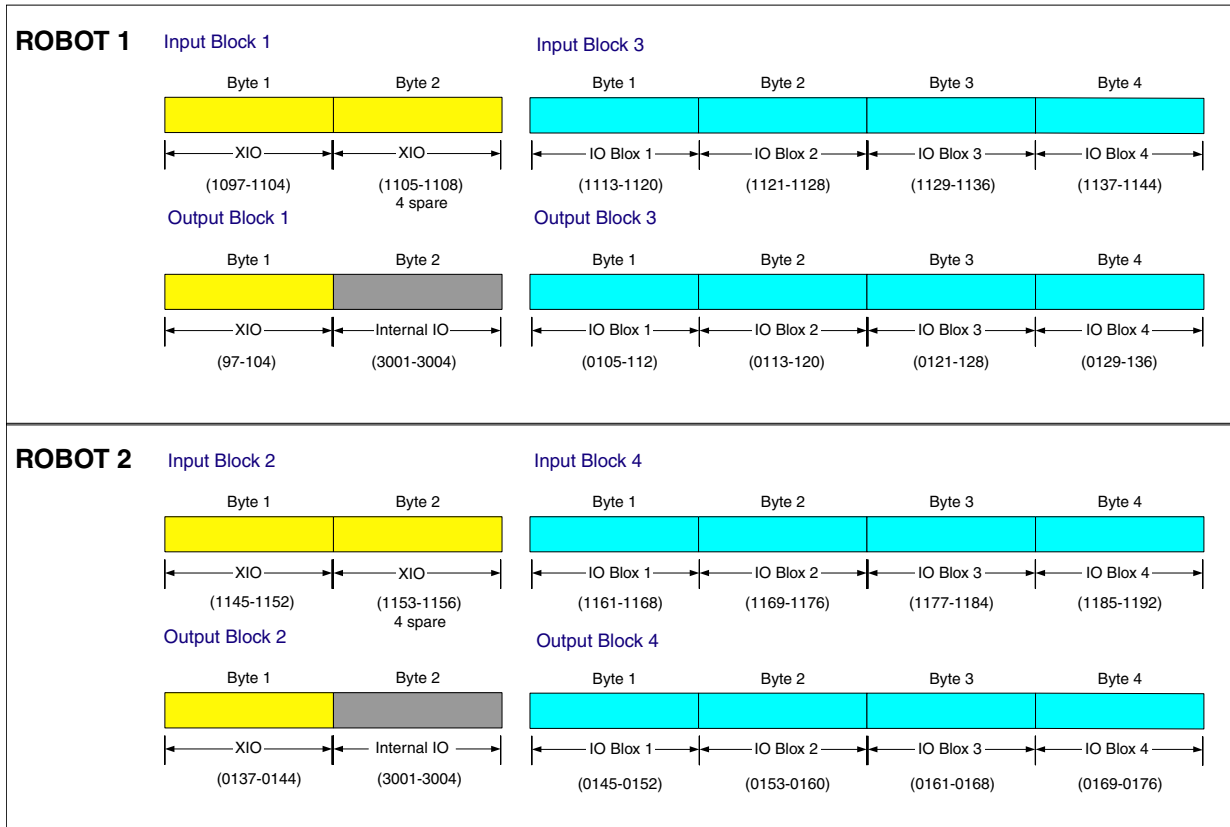

Figure 11-3. Input/Output Block Configuration in Dual Robot Systems
5. Use the DC_SETUP utility to assign the correct digital "logical" IO blocks to each robot. Robot 1 uses block 1 and block 3; robot 2 uses block 2 and block 4. See **Figure 11-3 on page 138** and **Figure 11-8 on page 142**.
Up to four IO Blox devices can be daisy-chained together to give you 32 inputs and 32 outputs. IO Blox occupy the first 4 bytes of the second block allocated to the robot. See Figure 11-3 on page 138. Also see the Adept IO Blox User's Guide for more information.